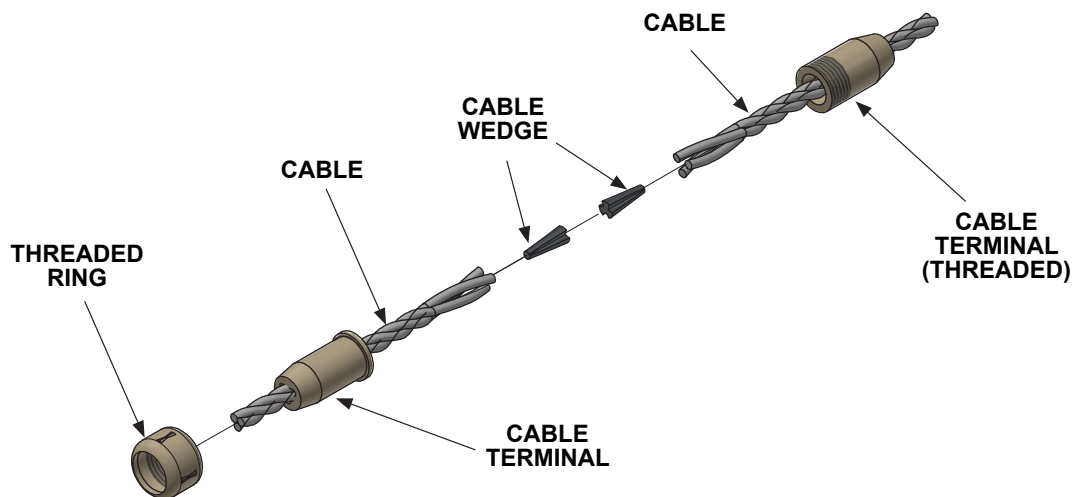

Figure 18
When two cable ends are spliced together other than where a spliced with a turnbuckle, a Torpedo Cable Splice can be used. The Torpedo Cable Splice (PN: 004099G) is made up of two (2) housings, one of which has threads on it, a threaded ring, and two (2) triangular wedges. See Figure 18.